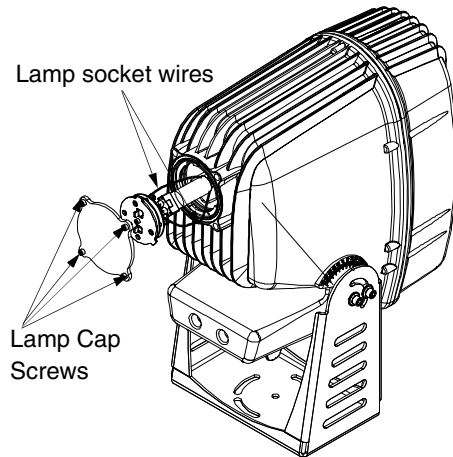

Figure 3-5a Removing the lamp socket assembly
3. Locate and loosen the lamp cap screws (see Figure 3-5a) with the 9/64in. allen wrench. Remove the lamp cap.
Note: The lamp assembly is connected to the fixture by lamp socket wires (see Figure 3-5a). Hold the assembly while replacing the lamp. Do not allow the lamp socket wires to support the weight of the lamp assembly.